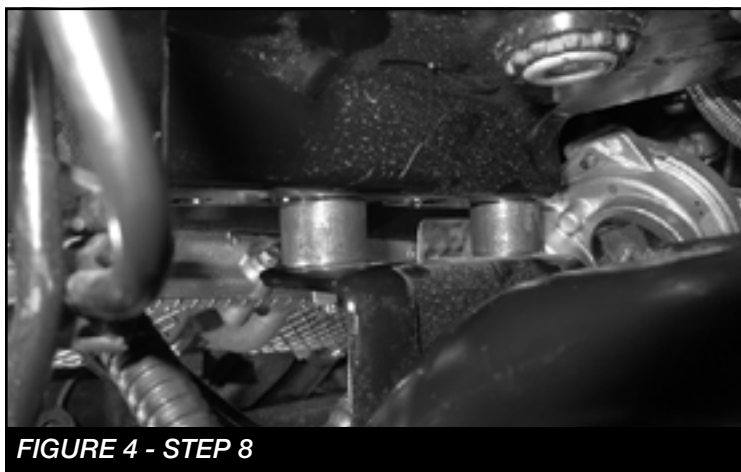

FIGURE 4 - STEP 8
7. **2020 Models** - Install two FT30929 (ABS Module spacer) between the ABS bracket and the upper shock mount bracket using the supplied 5/16" x 1-1/2" bolts, washers and nuts. **SEE FIGURE 4**